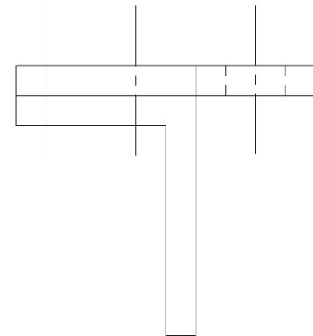

Figure 5-05
10. Join the two figures as shown in Figure: 5-05